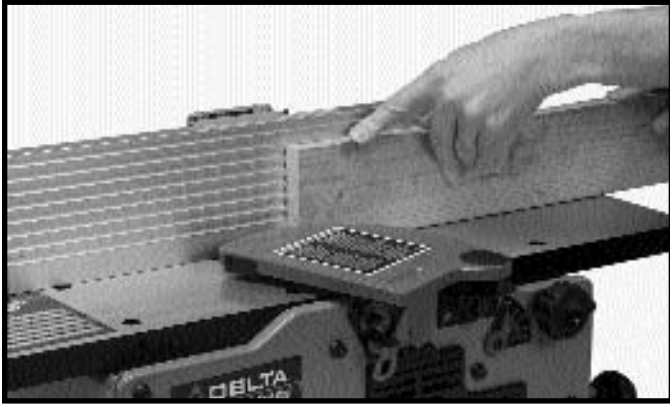

Fig. 2
1. **JOINTING OPERATIONS** – Jointing cuts or edge jointing are made to square an edge of a workpiece. The workpiece is positioned on the jointer with the narrow edge of the workpiece on the infeed table and the major flat surface of the workpiece against the fence, as shown in Fig. 2. The workpiece is moved from the infeed table, across the cutterhead to the outfeed table.